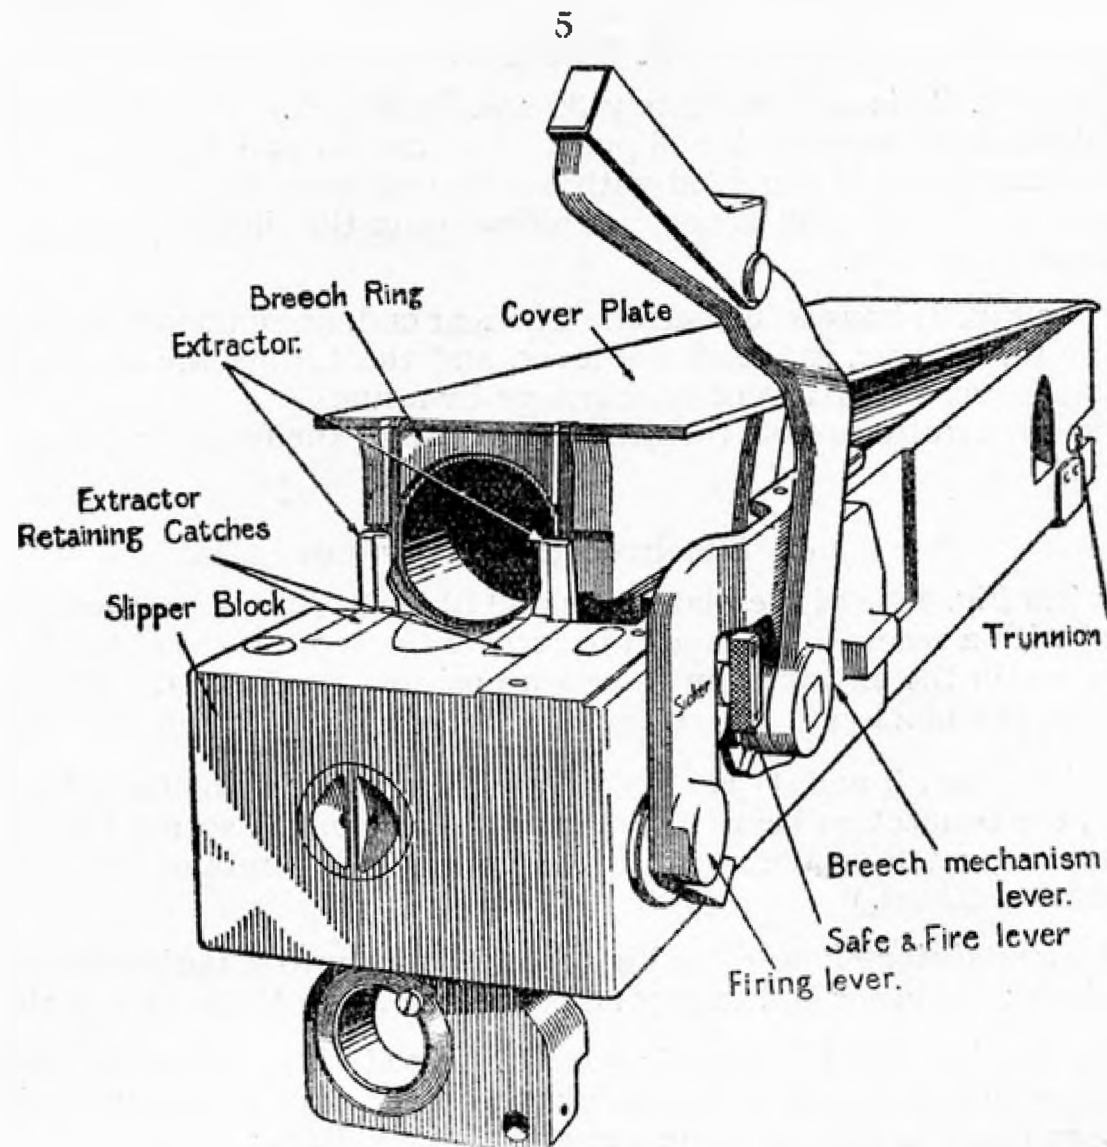

FIG. 2.—7.5 CM. (2.95 IN.) LIGHT INFANTRY HOWITZER (7.5 CM. 1.I.G.18)—
i. *The barrel* (see Fig. 2) is approximately 30 ins. in length. The muzzle end is formed with trunnions, which rotate in recesses in the slipper. The breech end has a rectangular breech ring. The upper surface of the barrel is provided with a cover plate as far as the trunnions. A guide is formed on each side of the breech ring to engage guideways in the slipper, while a longitudinal groove in the right side receives the slide.